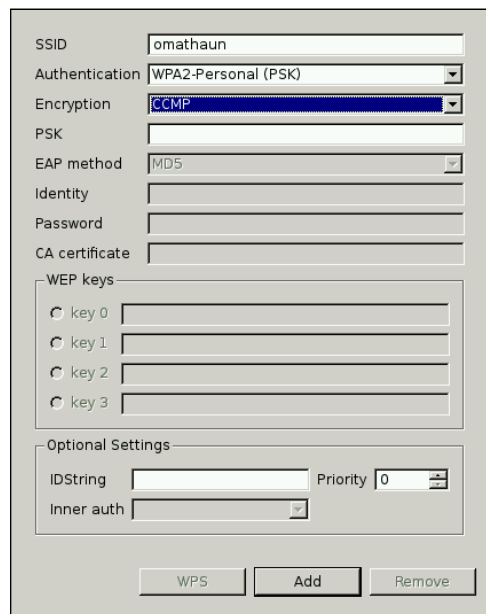

FIGURE 7-26: The `wpa_gui` main window
1. Run the supplicant software by launching Wi-Fi Config from the Raspbian desktop. The `wpa_gui` window is shown in Figure 7-26.